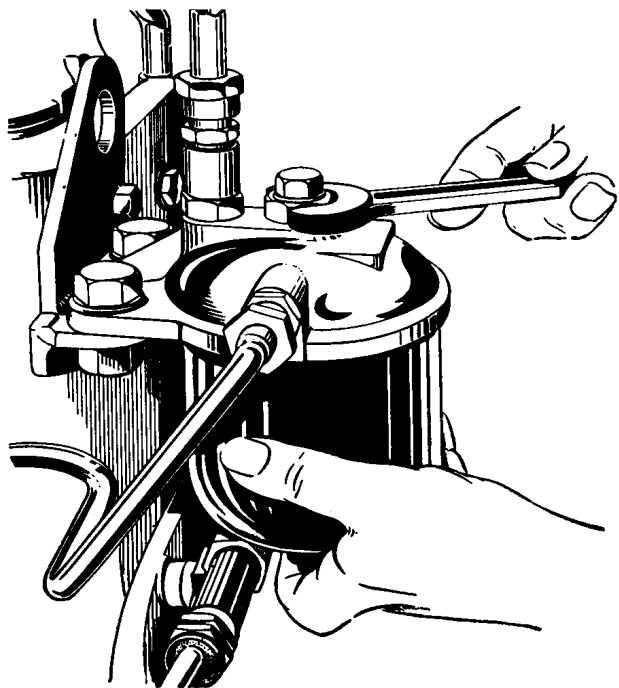

Fig. 1
- (1) Unscrew the larger nut in the centre of the cover (see Fig. 1).